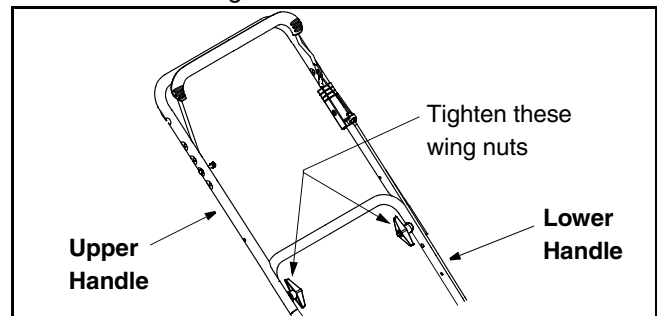

Figure 2
- Tighten the two wing nuts which are already on the handle. See Figure 2 .